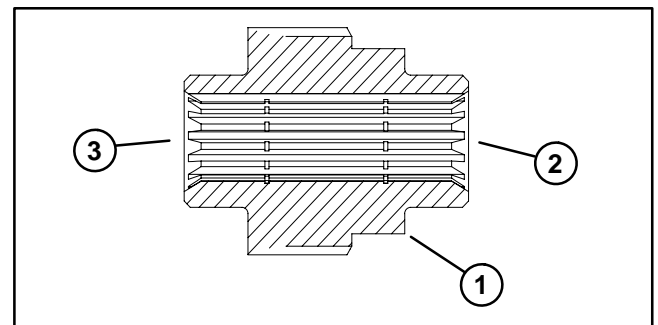

Figure 2
1. Install splined brake shaft into brake assembly. **Note:** The stepped end of the splined brake shaft must be aligned toward the hydraulic wheel motor (Fig. 2).
3. Install flange head screws (5) to secure brake assembly to frame. Tighten screws in a crossing pattern to a torque from 75 to 85 ft–lb (101 to 115 N–m).